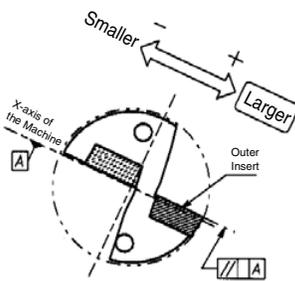
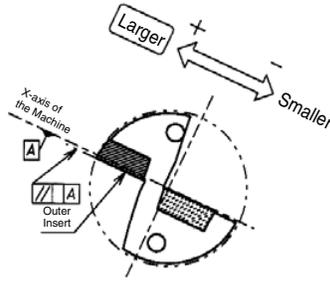

Fig. 2 Outer Insert Facing Up
Fig. 3 Outer Insert Facing Down
- For making the hole diameter larger, slide the tool along the X-axis toward the outer insert side. (Fig. 2, Fig. 3)